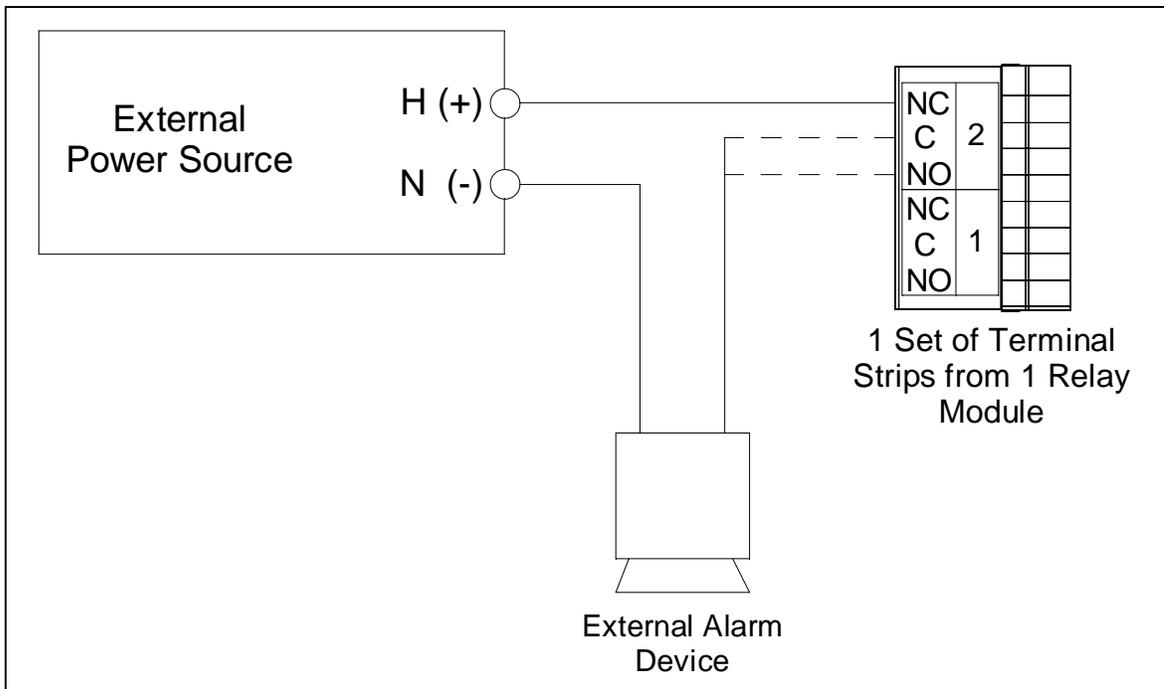

Figure 27: Wiring to the Card Relays
6. Connect the leads from the external alarm device and an external power source to the selected card relay terminals as shown in Figure 27.